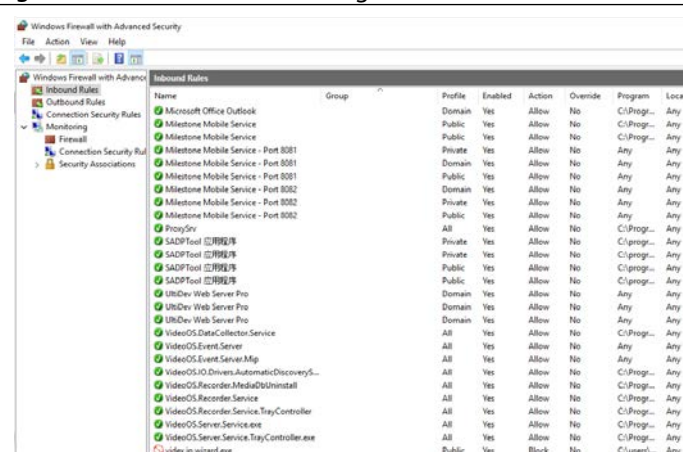

Fig. 58 Open windows firewall inbound rules
- » Open windows firewall and check inbound rules (**Fig. 58**).